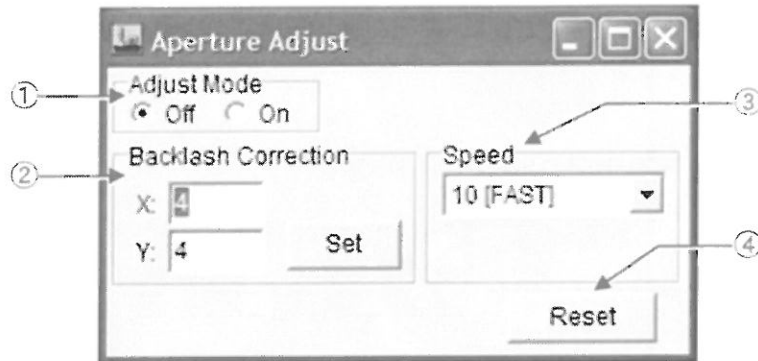

Fig. 4.64 Aperture window
It will be displayed (Fig. 4.64) by selecting from the PC window TEM Controller menu bar: Maintenance (Fig. 4.20-①).